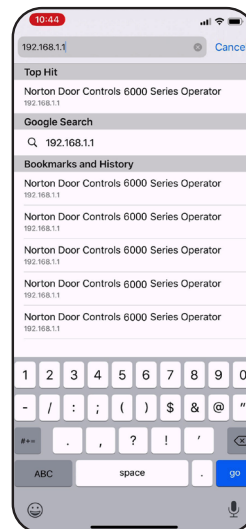

Figure 20
5. Open a web browser and enter 192.168.1.1 into the address bar. (Figure 20)